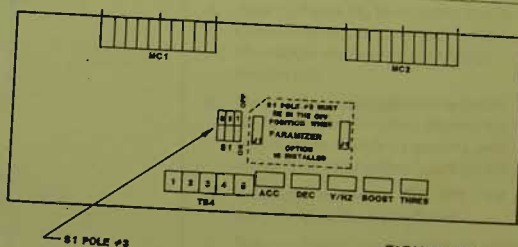

FIGURE 15
10.7 No voltage measured on TB3 with Reversing Control Module	<p>10.7.1 Refer to Figure 15. Locate S1. Be sure that S1, pole #3 is in the 'ON' position when the Paramizer option is not used.</p> <p>10.7.2 If S1, pole #3 is in the on position, refer to paragraph 10.5 and follow the procedure in that step.</p>
10.8.1 continued "Shear Pin" LED is illuminated. NO MOTOR CONNECTED TO TB3.	10.8.1.3 continued G. Refer to Figure 17. Your FHP ParaJust should now resemble Figure 15. Disconnect AP2 and AP3 from the transistor module. H. Remove the four (4) nuts holding the transistor module down to the chassis with a 1/4" nutdriver or socket wrench. I. Check the serial number on your FHP ParaJust controller. If your serial number is 8236 or subsequent, proceed to step J. If your serial number is prior to 8236, remove the gray fish paper which is glued down to the chassis under the transistor module. NOTE: DO NOT REMOVE THE WHITE HEAT SINK COMPOUND ON THE CHASSIS UNDER THE TRANSISTOR MODULE! THIS COMPOUND IS NECESSARY FOR PROPER HEAT TRANSFER. J. Remove the old transistor module and place the new module in its place. K. Replace the four 6-32 nuts which hold down the module. Tighten all four nuts evenly. Be sure that the two metal heat sink bars on each side of the module are in full contact with the chassis plate. L. Replace AP2 and AP3 onto the new transistor module. Replace the motherboard onto the chassis along with the five (5) mounting screws removed in Step F.